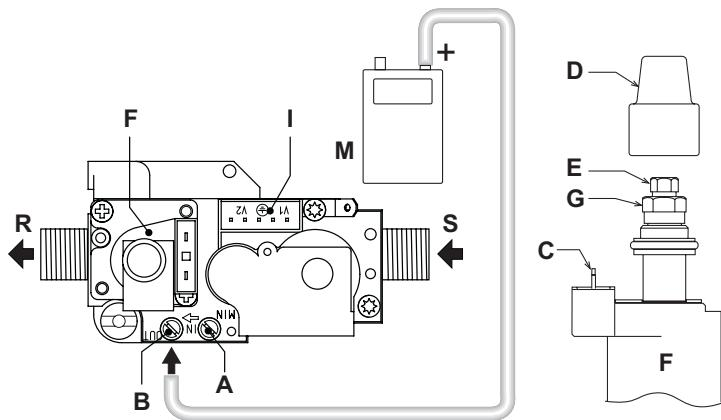

fig. 20 - Gas valve
- Vent the air from the gas pipes by means of the gas valve pressure point (ref. A - fig. 20).